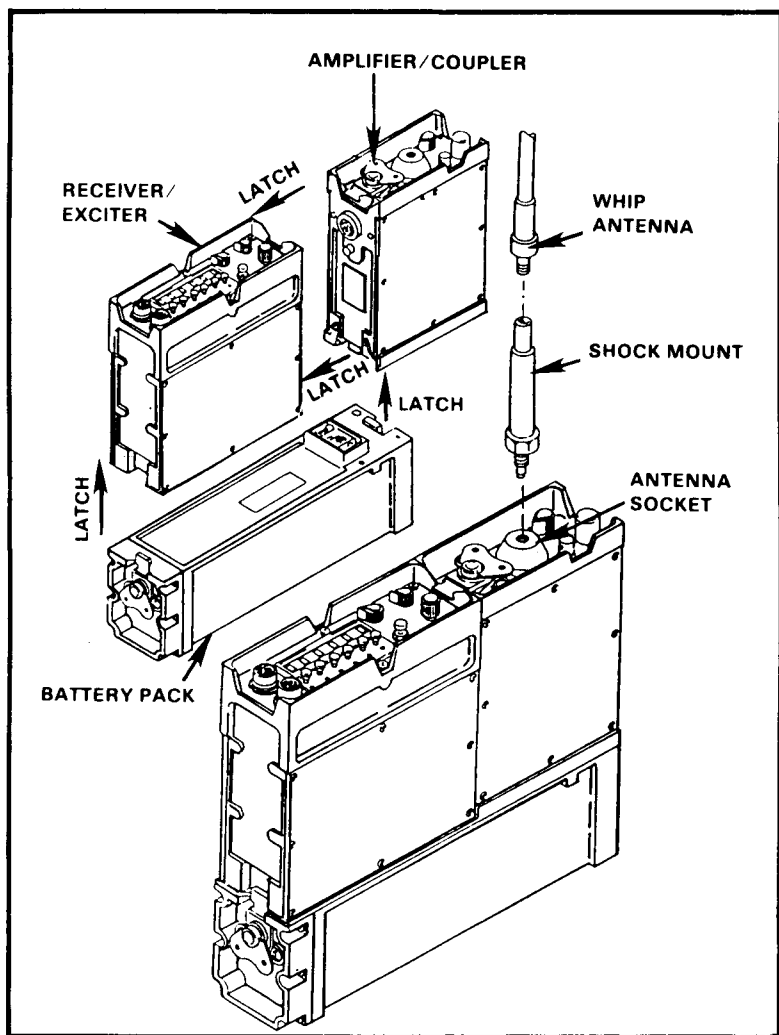

Figure 1-16. Radio Set AN/PRC-104A installation.
b. The components must be assembled (installed) for operation. Figure 1-16 shows how the components of the AN/PRC-104A are assembled to make the set operational.
- Screw the entire assembly into the antenna socket on the radio (Figure 1-16).